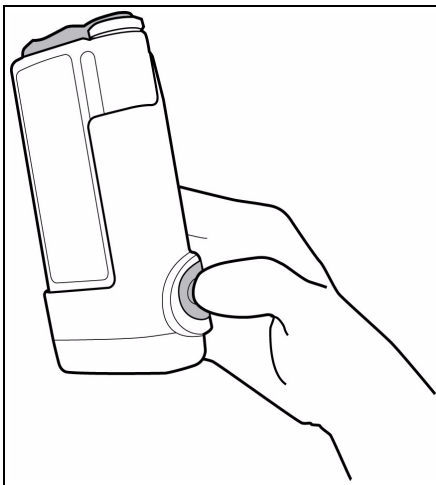

FIGURE 10-9 SpO₂ Module Release Button
2. Press the large button on the right side of the SpO₂ module (shown in FIGURE 10-9) until a loud audible click is heard. The click sound indicates that the latch has been properly disengaged from the Telepack.